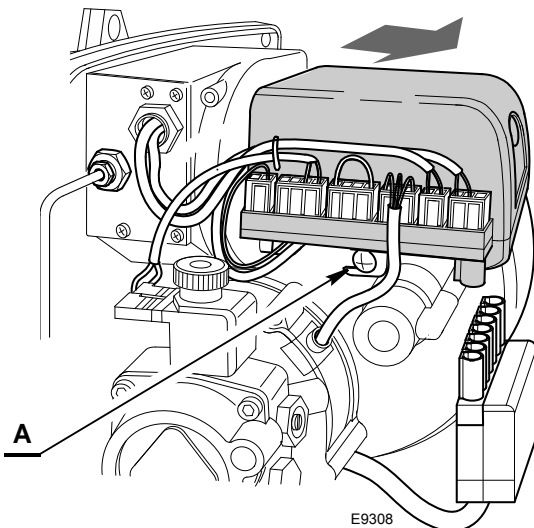

Fig. 13
In two pipe vacuum systems (Fig. 13) the return line should terminate within the oil tank at the same level as the suction line. In this case a non-return valve is not required.
- undo the screw A) (Fig. 13) and pull in the direction of the arrow after undoing all the components.